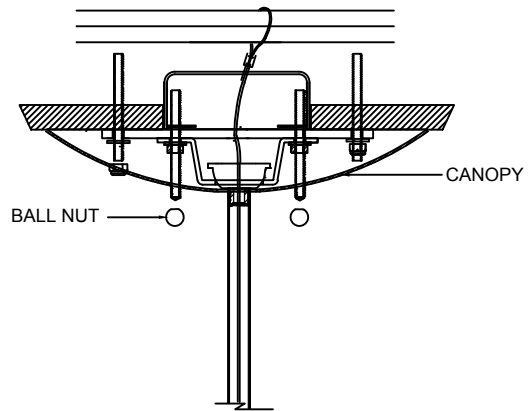

FIGURE-03
7. Pull up & attach the canopy to the modified heavy duty strap and secure it with ball nuts. (See Figure-03)